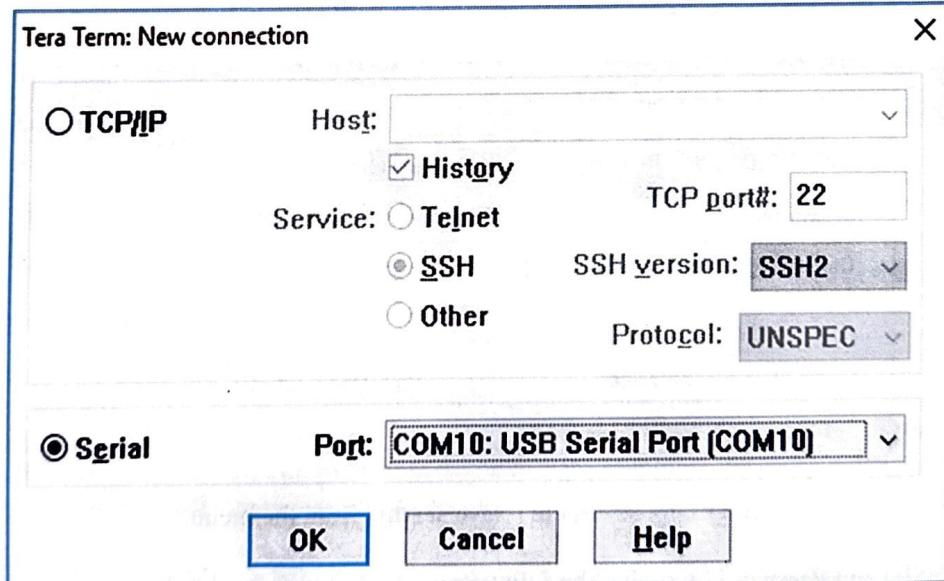

Figure 9
2. Open the TeraTerm. Connect to the appropriate COM port, which may take some experimenting. (Figure 9)